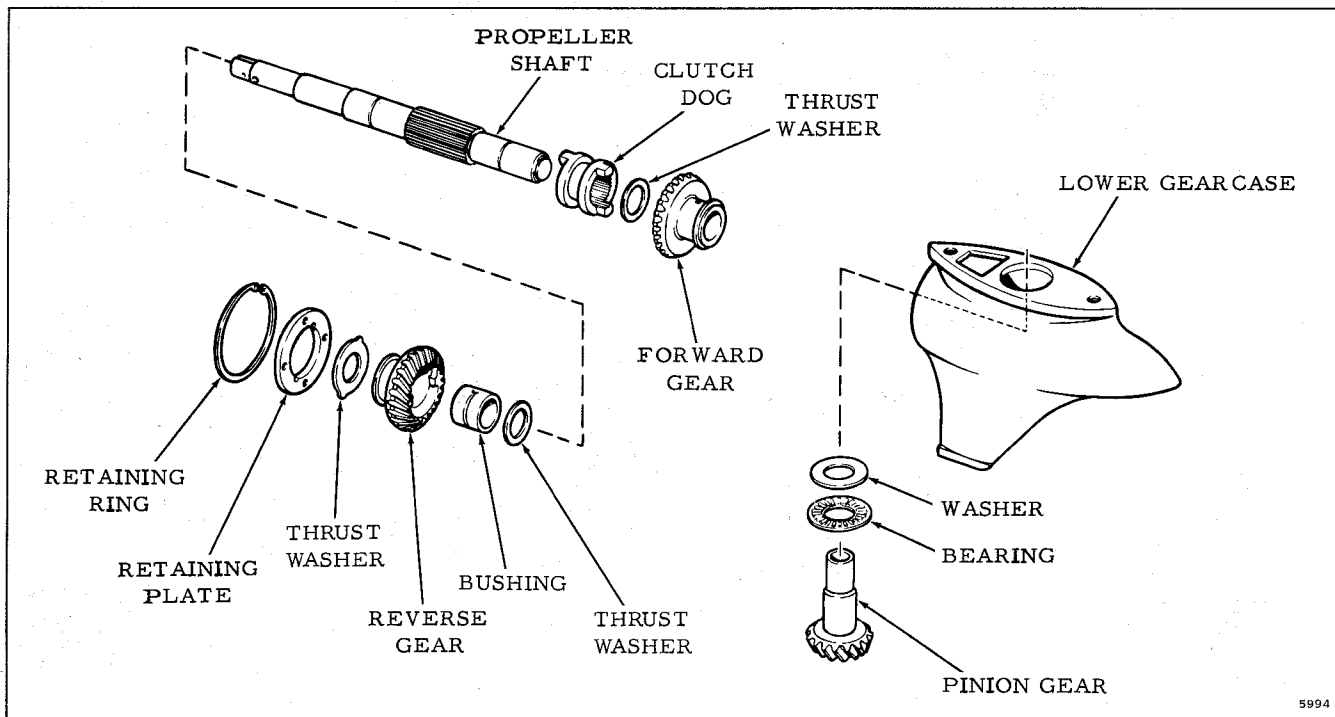

Figure 6-29. Installing Propeller Shaft and Gears
b. Using propeller shaft, install forward gear. Propeller shaft must again be removed to permit installation of pinion gear. Install pinion gear with thrust bearing and washer in place. Holding pinion gear in place, install shift lever, cradle, and clutch dog. Install propeller shaft, reverse gear, and thrust washer. Slide large reverse gear thrust washer, bronze side towards gear, onto propeller shaft, followed by the gearcase head retaining plate. Lock in place with the Truarc retaining ring, flat side of ring against plate. See Figure 6-29.